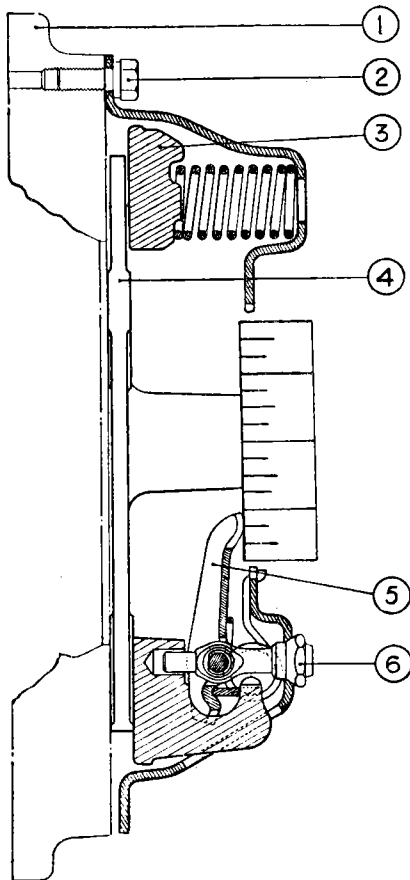

Fig. 14. Release lever adjustment
(1) Using a Borg & Beck gauge plate (Fig. 14)
- (a) Mount the clutch on the actual or a spare flywheel (1, Fig. 14) or alternatively clamp it down to a flat surface, with the gauge plate (4) occupying the position normally taken by the driven plate. The ground lands of the gauge plate should each be located under a release lever (5).